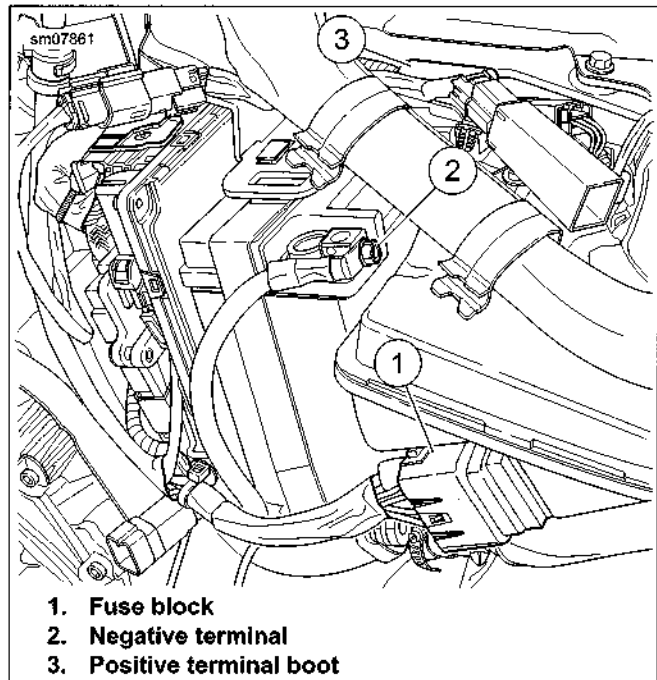
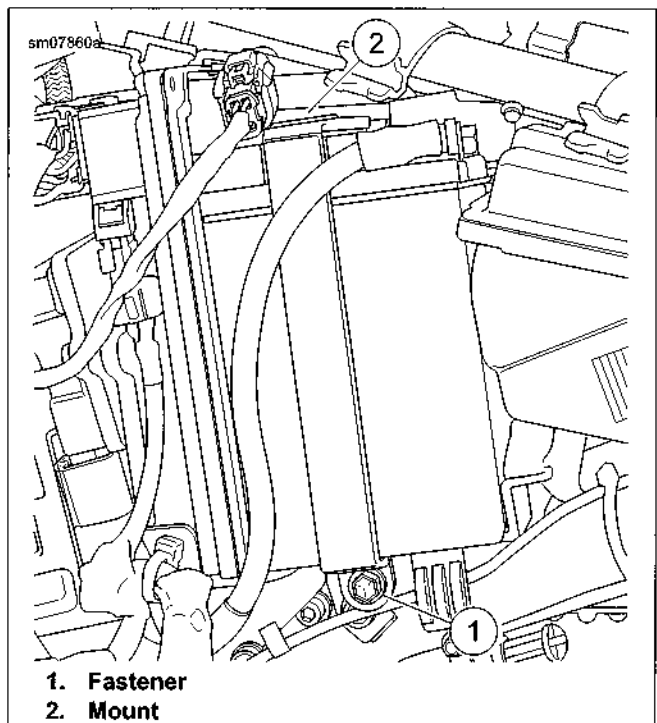

Figure 1-44. Battery Compartment
Figure 1-45. Battery Strap
3. See Figure 1-44. Pull the fuse block (1) aside.
5. Disconnect the negative battery cable at the battery terminal (2).
6. Lift protective rubber boot covering battery positive terminal (3). Disconnect the positive battery cable.
7. See Figure 1-45. Remove battery strap fastener (1).
8. Unhook battery strap from battery tray mount (2) on top of battery.